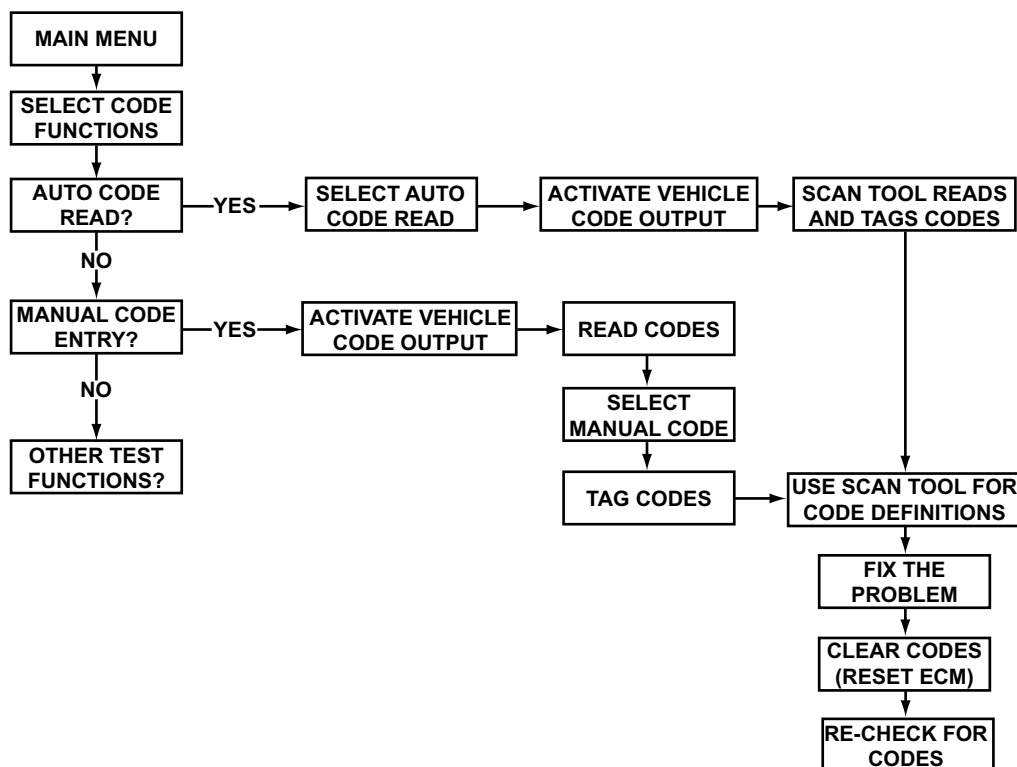

Figure 3-28 Basic Code Functions: Auto Code Read and Manual Code Entry
- **Auto Code Read** reads all available electronic codes automatically (Figure 3-28).
- **Manual Code Entry** lets you read codes that can be identified by visual observation of a flashing lamp (LED) and manually entering data into the scan tool (Figure 3-28).